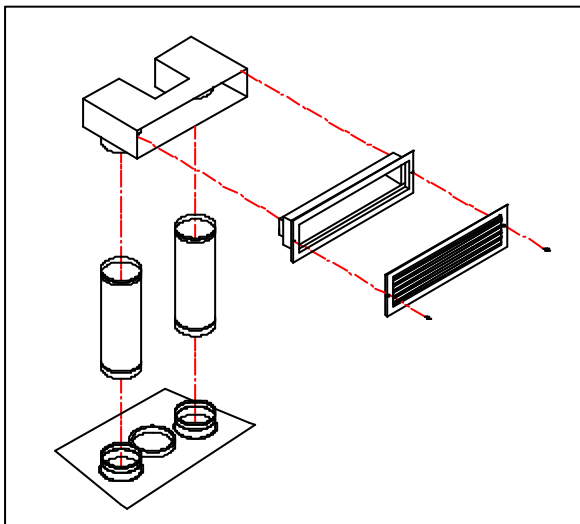

figure 16
1. Single hot air outlet including: (see Fig.16)
Maximum length	See figures 16 & 17
1. Remove the plates closing up the 8" dia. holes on top of the fireplace. Then, cut the insulation in order to obtain two 8" dia. openings. Fix the adaptors on the fireplace openings by turning clockwise (figures 16 and 17).